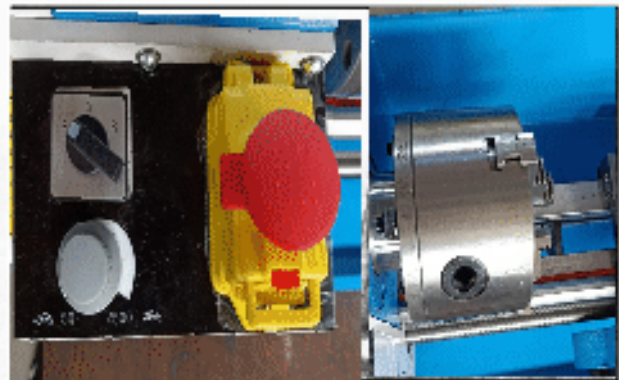

Fig. 5 Ajustment Of Saddle , Cross Slide And Compound Rest
6. Check the compound rest crank and the cross feeding crank and see if they work properly. If they are too tight or too loose, turn the adjusting screws located at both sides. (Fig. 5)